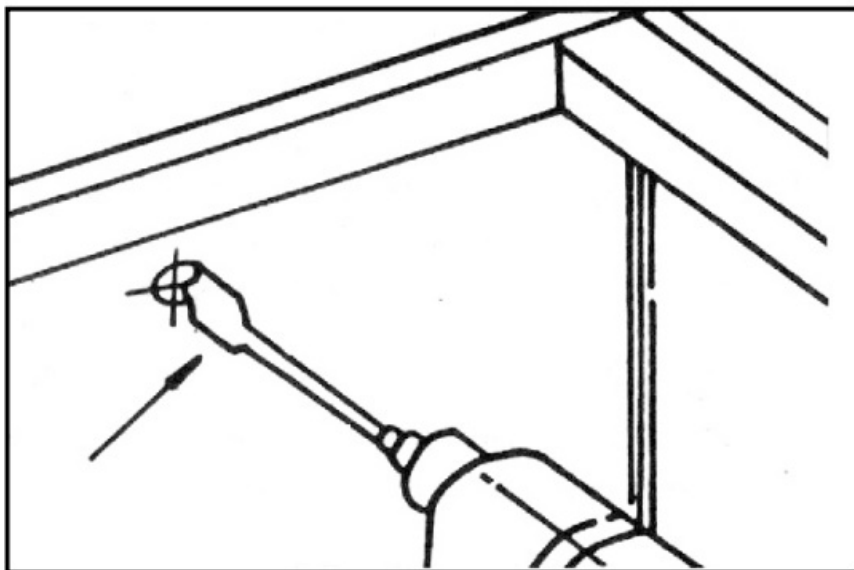

Fig.8 Drill an access hole for electrical power line
5. On the cabinet, mark the position of the access hole through which the power supply cord will go. Drill the access hole with a 1-1/4" bit on your drill. (Fig. 8)